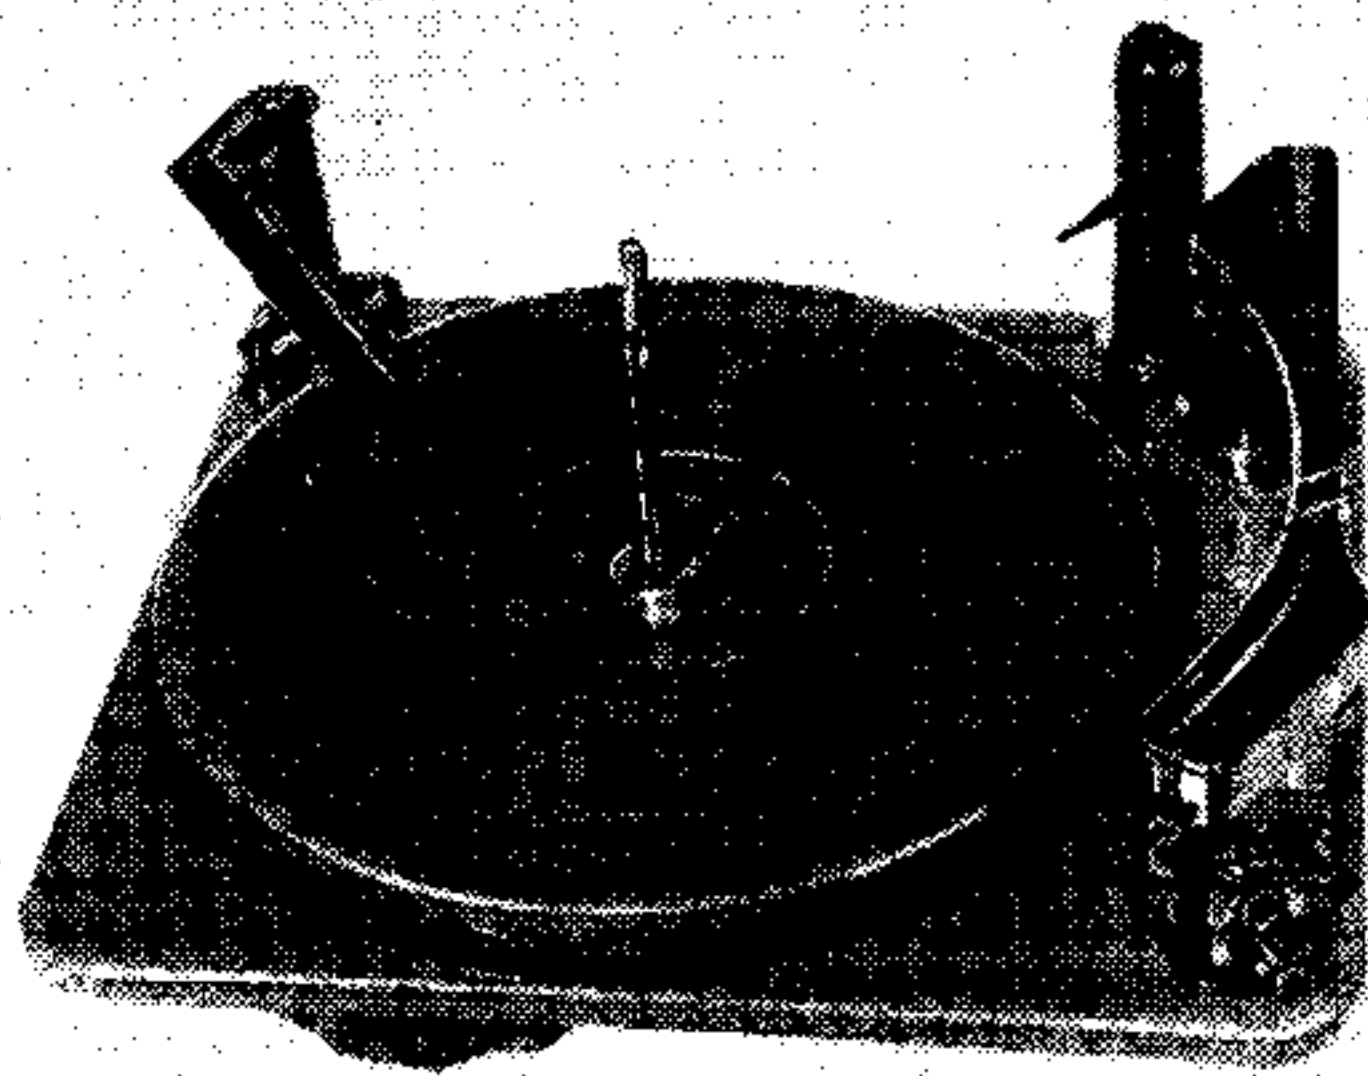

Fig. 1.—Simple control by only two knobs, and economy of design, are two of the features of the versatile Monarch three-speed changer
**O**F MODERN styling and finished in hammered bronze or cream, the Monarch auto-changer is completely self-contained (Fig. 1). Assembled on a pressed steel baseplate, it requires a minimum cabinet fitting space: 12½in. wide, 10½in. deep, with 5½in. clearance above and 3in. below. The baseplate is fitted with four suspension springs to eliminate acoustic feedback. Pickup arm and base, control knobs and selector cover are of Bakelite; all moving parts of changer mechanism are chemically blacked.